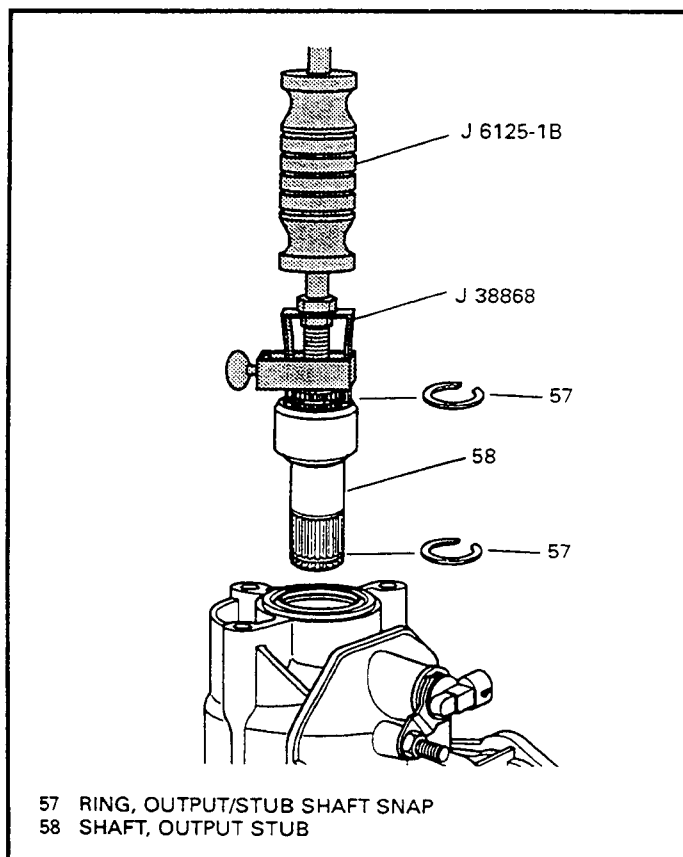

Figure 46
8. Remove and discard the snap ring (57) from the end of the stub shaft (See Figure 46). Snap ring **is not** reusable.
13. Pull the stub shaft out using the slide hammer impact as shown in Figure 46.